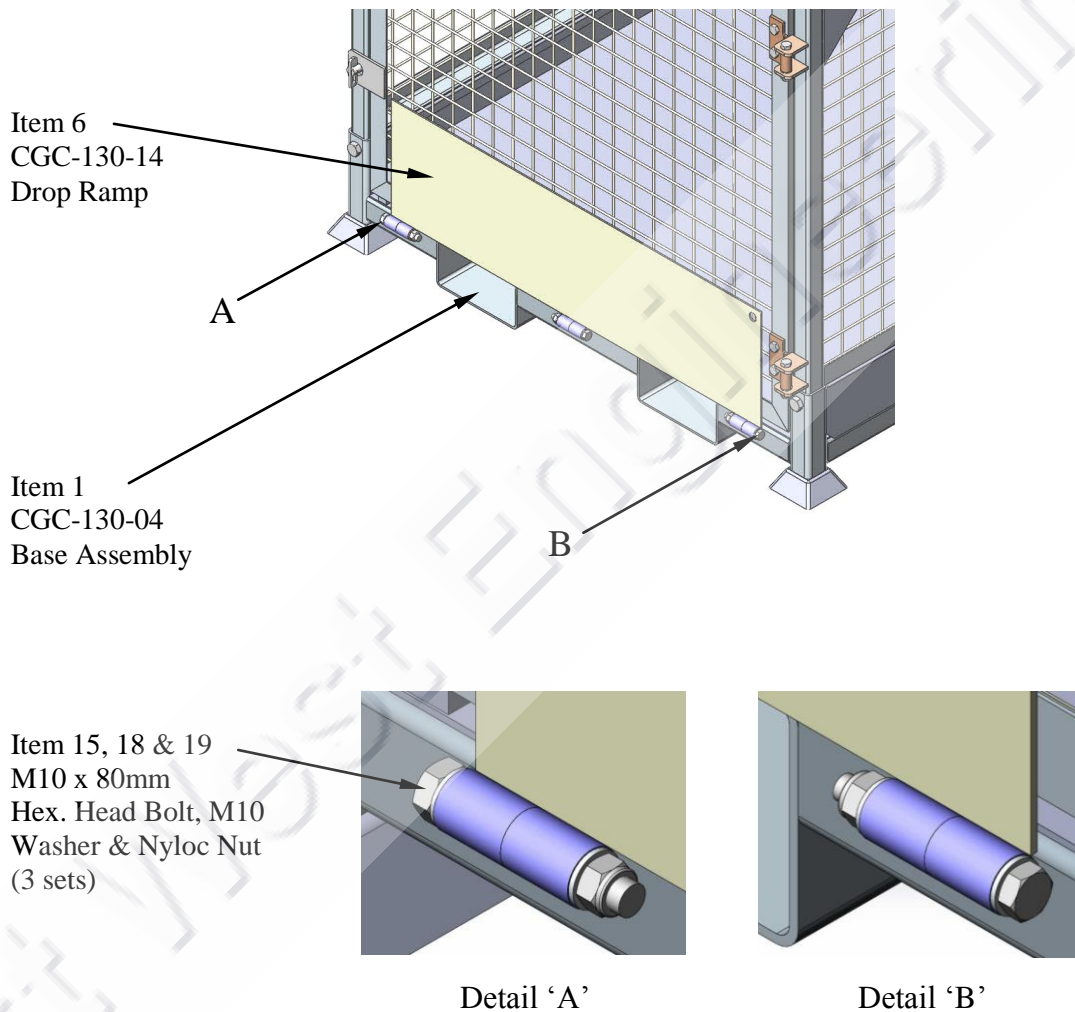

Figure 1.5
- J) Ensuring the Gate is closed and locked, position the Ramp (Item 6) orientated as shown in Figure 1.5 below. Aligning Ramp with Ramp Hinge holes on the Base Assembly (Item 1), loosely assemble together using three (3) M10 x 80mm long Hex. Head Bolts (Item 15), M10 Flat Washers (Item 18) and M10 Nyloc Nuts (Item 19), with the bolt heads positioned as shown in Figure 1.5, Detail 'A' & Detail 'B' below.